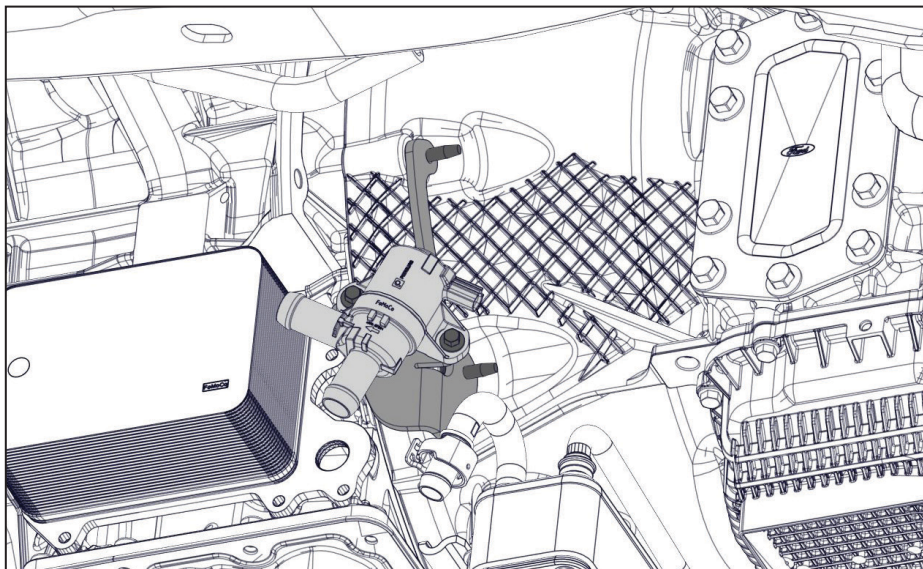

Figure 14 — Install supplied coolant valve bracket
- ☐ Using the OEM fasteners, install the supplied bracket onto the bellhousing mounting studs (Figure 14).
- ☐ Using the OEM fasteners, mount the coolant valve to the bracket (Figure 14).